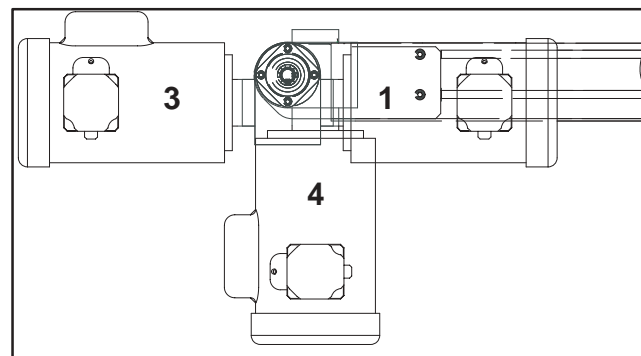

Figure 3
*Gearmotor may be operated in positions 1, 3 or 4 (**Figure 3**).*